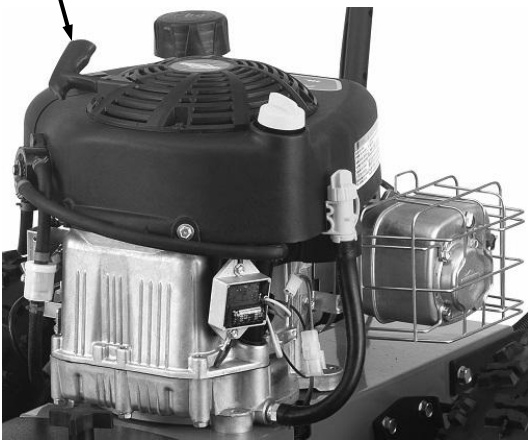

Figure 18
- Grasp the Recoil Starter Handle and slowly pull until you feel resistance (Figure 18). Let the Cord retract a little bit, and then pull the Cord rapidly to start the Engine.